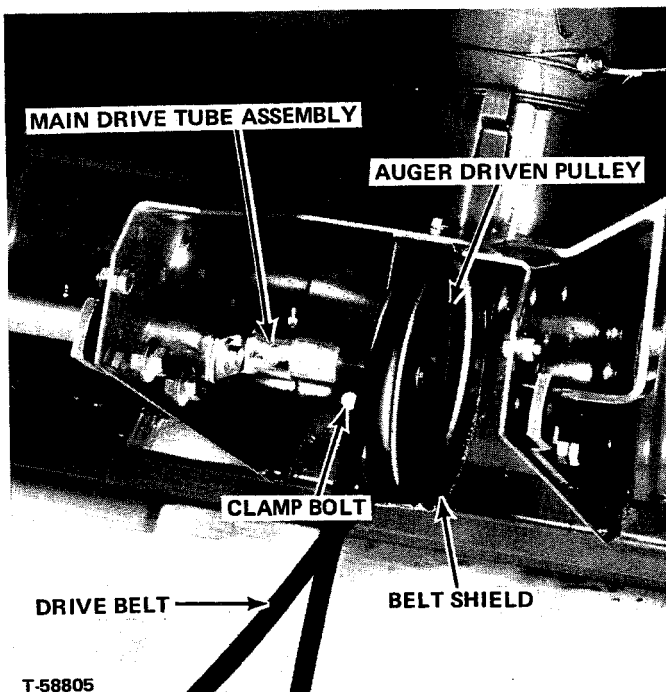
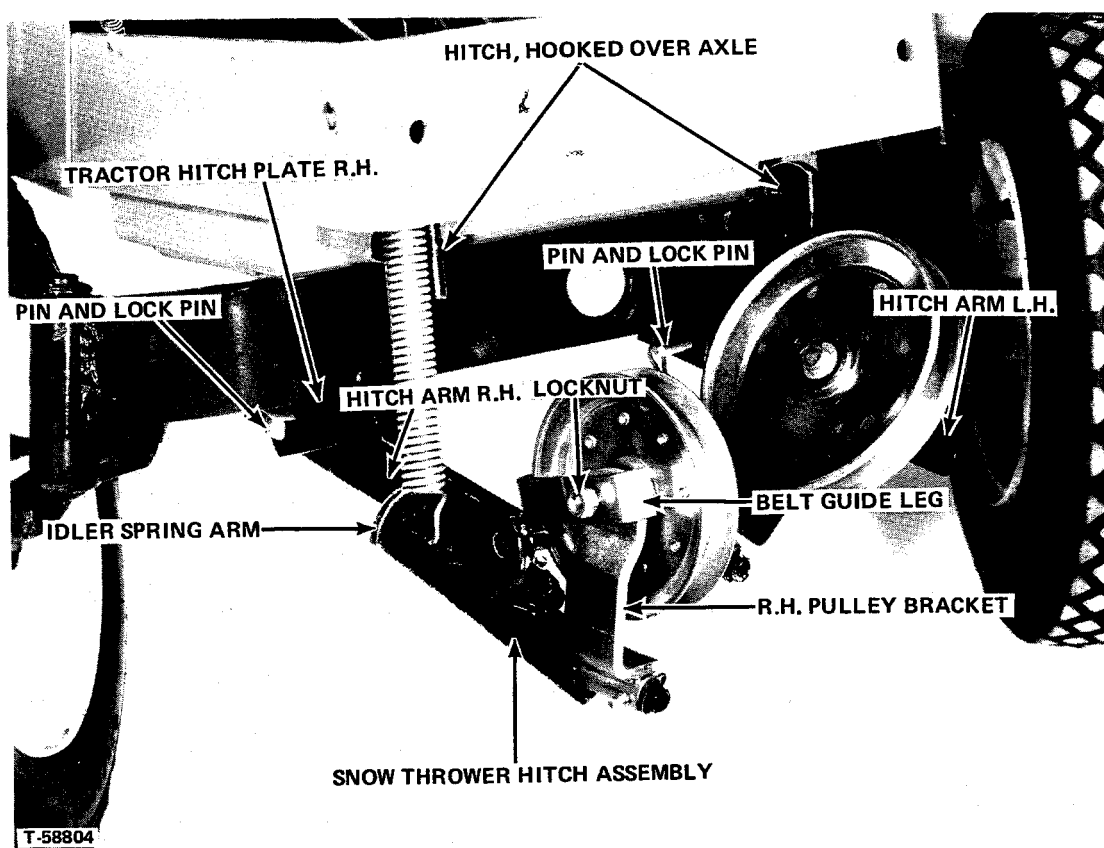
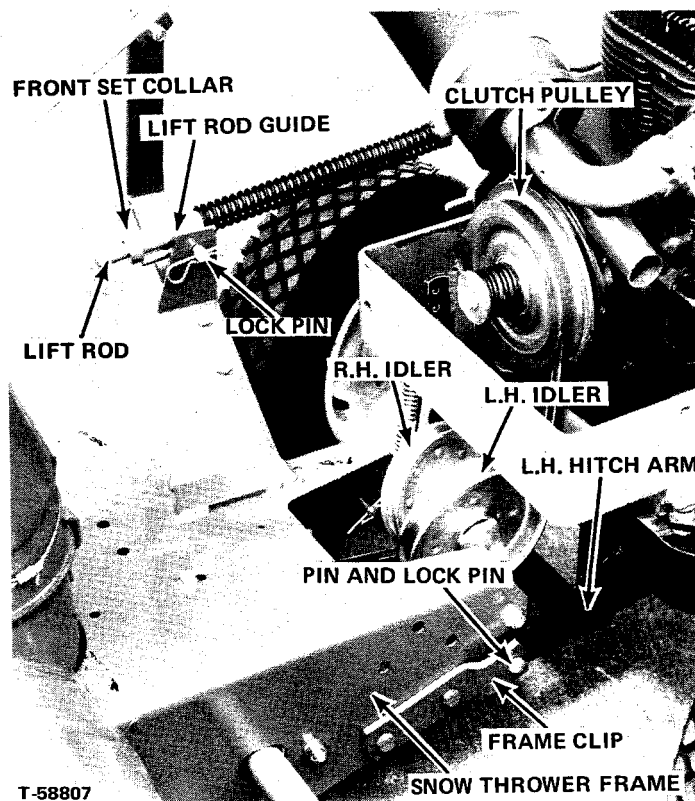

FIGURE 7
FIGURE 8 - (Tractor Hood Removed for Visibility)
FIGURE 9 - (Tractor Hood Removed for Visibility)
2. Install the snow thrower hitch assembly on the front of tractor as shown in Figure 8. Hook the top of hitch frame over top of tractor axle and attach right hand and left hand hitch arms to right hand and left hand tractor hitch plates with pins and lock pins.
3. Locate snow thrower assembly in front of tractor, check that drive belt is over auger driven pulley and under belt shield as shown in Figure 7. Position snow thrower frame and frame clips over front end of left hand and right hand hitch arms and attach with pins and lock pins as shown in Figure 9.
7. With left foot, step down on outer end of idler spring arm, (Figures 8 and 10), to raise right hand idler and give belt slack, then loop the "V" side of belt over the clutch pulley on end of engine crankshaft (Figures 9 and 10).
8. Locate the belt guide on right hand pulley as shown in Figures 8 and 10 with front leg of guide against and parallel to the front edge of the right hand pulley bracket. Tighten locknut.
6. Count the number of turns of front cable on the control rod spool. Wrap the rear part of cable around the rear of control rod spool with the same number of turns. Pass end of rear cable around back of spout and loop it around stud outside of flat washer. Place cupped washer with the cut out side over the looped end of cable and hold in place with lockwasher and nut. While holding the spout pointing straight front, pull the cable end tight with a pair of pliers, turn cupped washer so that the rear cable end enters and leaves through the cut out portion of washer. Tighten nut securely. Bind loose end of cable to rear cable with plastic tape as shown in Figures 9 and 10.